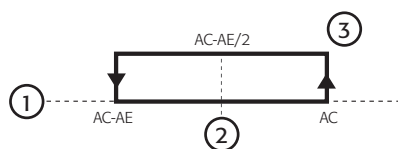

Fig. 4.I
- indicates that the limit between Ac and AE has been exceeded (deriving from the calculation:  $Ac-AE/2$ , see Fig. 4.I);
- indicates that the temperature set point Ac has been exceeded (see Fig. 4.I);